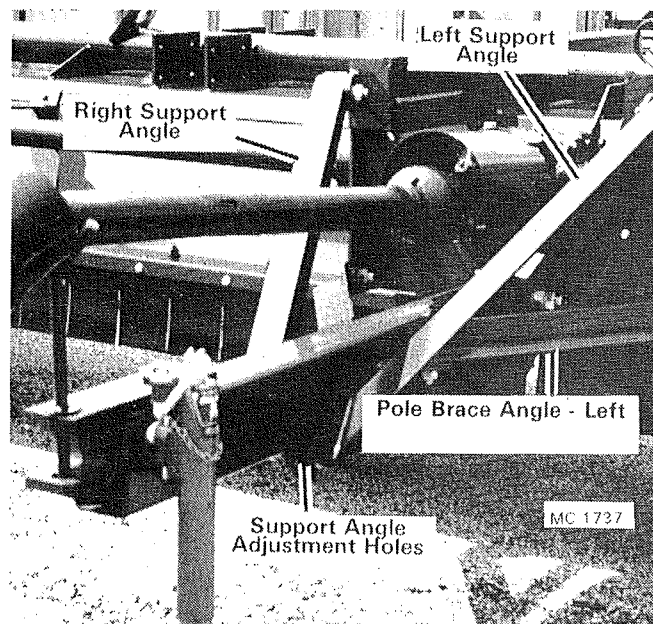

Figure 6
3. Install the left and right pole brace angles, see Figure 6. Use ¾"-10 x 2½" capscrews, lockwashers and nuts.